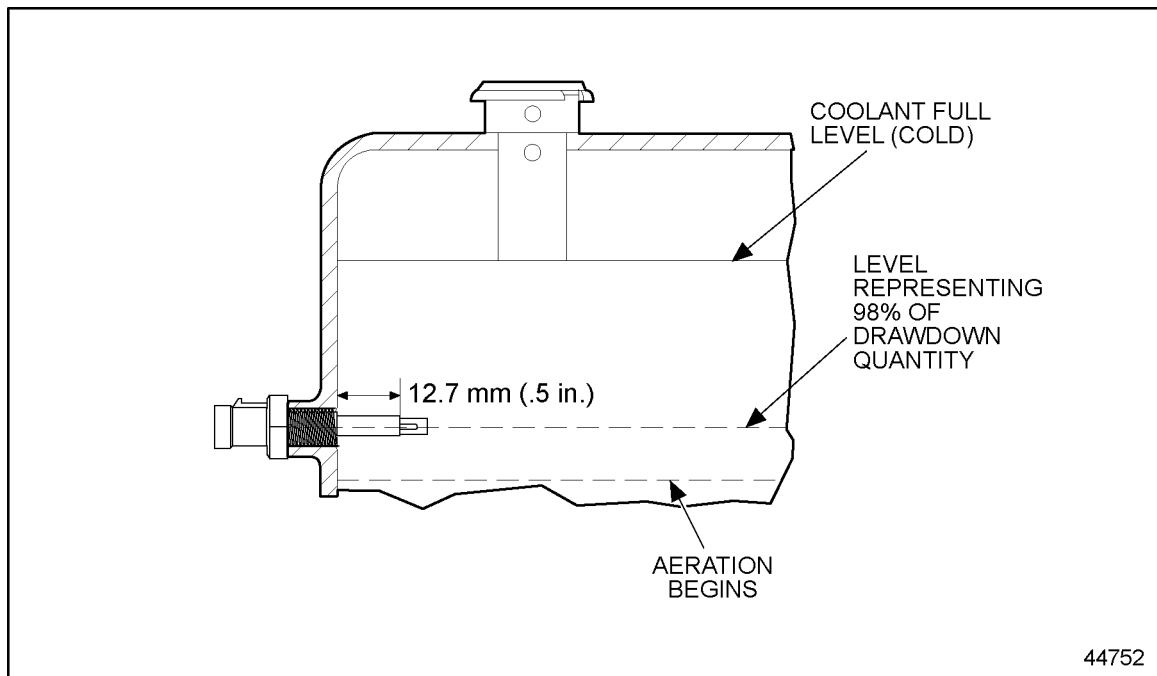

Figure 30-1 Engine Coolant Level Sensor Mounted in Radiator Top Tank
3. Check the coolant level in the reservoir. See Figure 30-1.